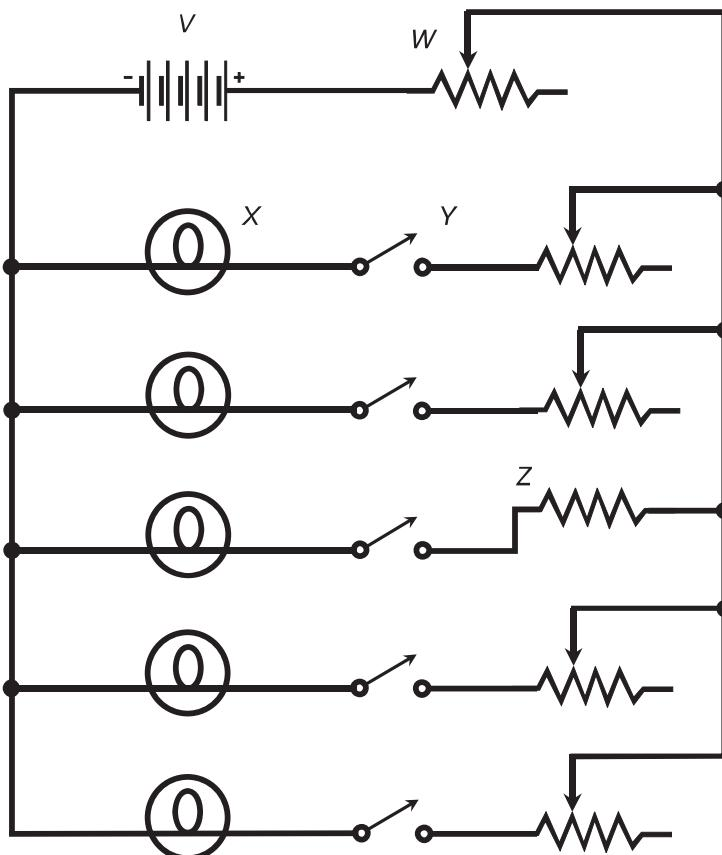

Fig. Exam-4. Illustration for Final Exam Questions 34 through 39.
34. In Fig. Exam-4, the component labeled *V* is
35. In Fig. Exam-4, the component labeled *W* is
36. In Fig. Exam-4, the component labeled *X* is
37. In Fig. Exam-4, the component labeled *Y* is
38. In Fig. Exam-4, the component labeled *Z* is
39. In Fig. Exam-4, the condition, setting, or value of component *Y* affects the condition of